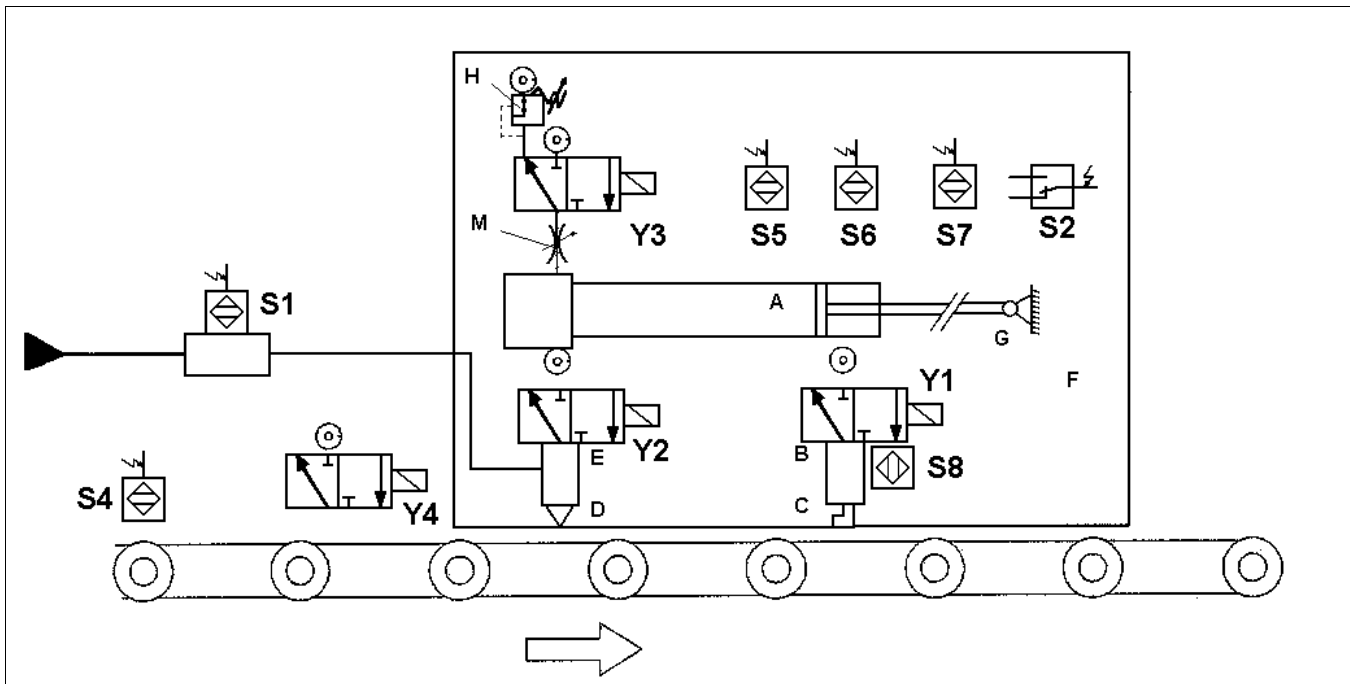

Fig. 1: Mode of operation of the COBRA 3-2 (illustration of the right-hand design)
#### 3.3 Mode of Operation (see Fig. 1)
- in cases where the pick up arm (Fig. 1, item C) is still engaged while the carriage (Fig. 1, item F) already collides with the frame (Fig. 1, item G);
- in the case of a too rapid conveyor speed and/or of a too high inertia of the system control or if the proximity and position switches S7, S2 (Fig. 1) fail to operate.
- Danger of squeezing by possible movements of the carriage within the frame (see Fig. 1, items F and G)
- Danger of limbs being pulled in or caught up by the carriage moving within the frame (see Fig. 1, items F and G).
- Danger of collision when the pick up arm and the lubricating head are moved forwards and backwards (see Fig. 1, items D and C), particularly if the proximity switches and position switches (see Fig. 1, items S2, S4, S5, S6, S7, S8) are actuated negligently.